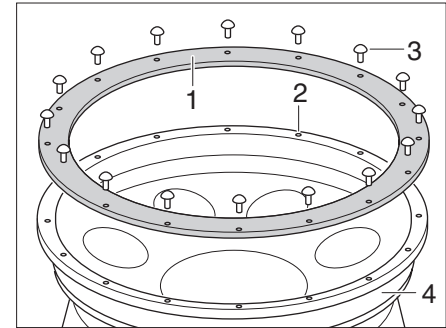

Fig. 201 Wheel protection ring
- ▶ Drop the threadlocker Loctite® 222 into the core hole (Fig. 201,2).
- ▶ Install the wheel protection ring (Fig. 201,1) to the wheel (Fig. 201,4) using the screws (Fig. 201,3).
- ▶ Tighten the screws (Fig. 201,3) with a torque of 2-3 Nm.